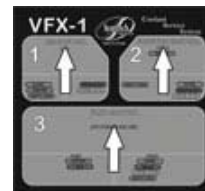

Figure 6
- 5) Return all control panel valves to neutral position, (*Fig 6*) and BLACK/USED coolant flow control valve at hose end OFF.